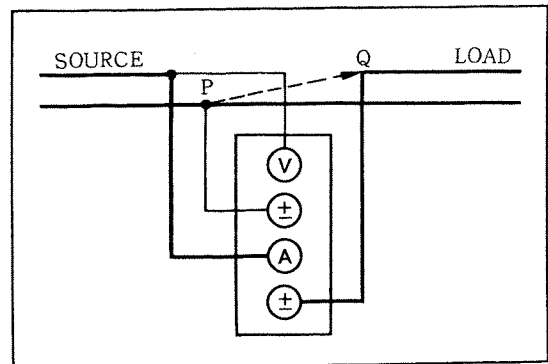

Figure 2-18.
(2) When Current Terminal is Connected to Load Side
For power measurement, the current terminal may be connected to the load side besides the wiring stated in (1) above. In this case, by changing the voltage connecting point from P to Q with the load kept connected as shown in Figure 2-18, the power measured by the instrument is the loss on the current terminal side. By deducting this value from the power measured when the voltage connecting point is at P, a true load power is obtained.